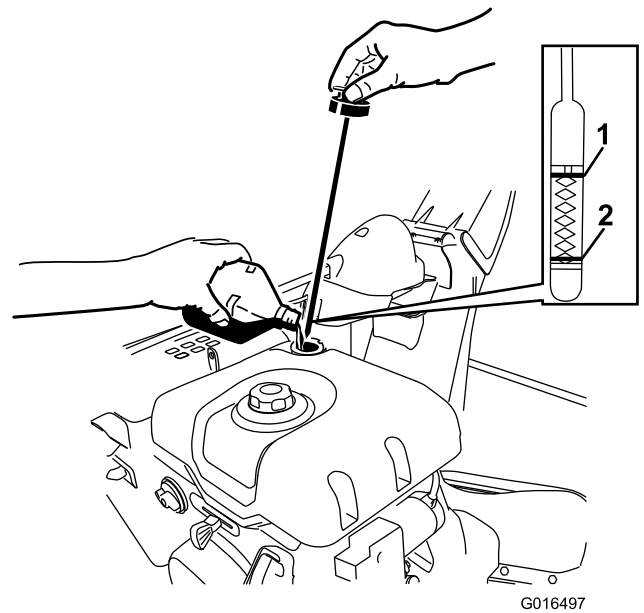

Figure 20
- Remove the dipstick by rotating the cap counterclockwise and **slowly** pour oil into the oil fill tube to raise the oil level to the Full mark on the dipstick. **Do not overfill.** (Figure 20).